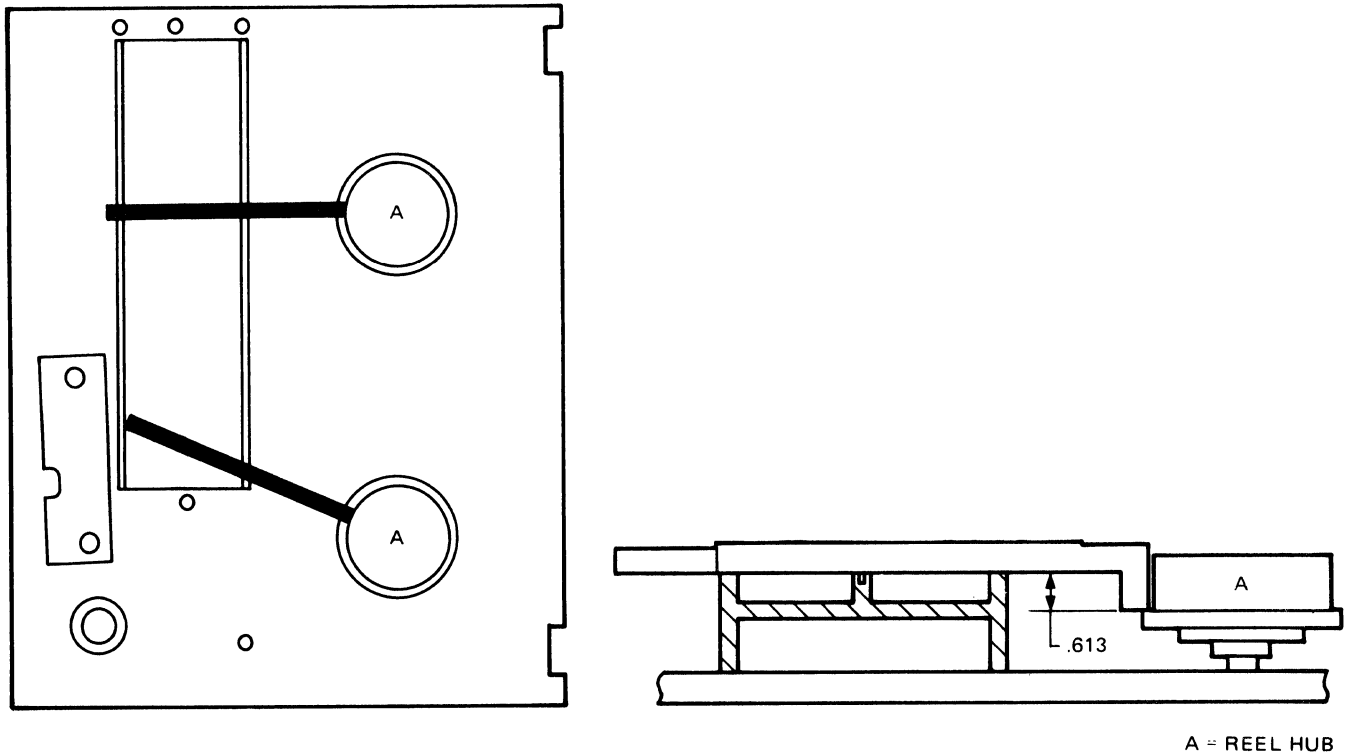

Figure 5-12. Reel Hub Height Alignment Tool Positioning
- d. Check each hub as shown in figure 5-12, which indicates the two positions of the alignment tools. The L-shaped edge of the alignment tool and the edges of the reel hub should just touch as the hub is rotated.